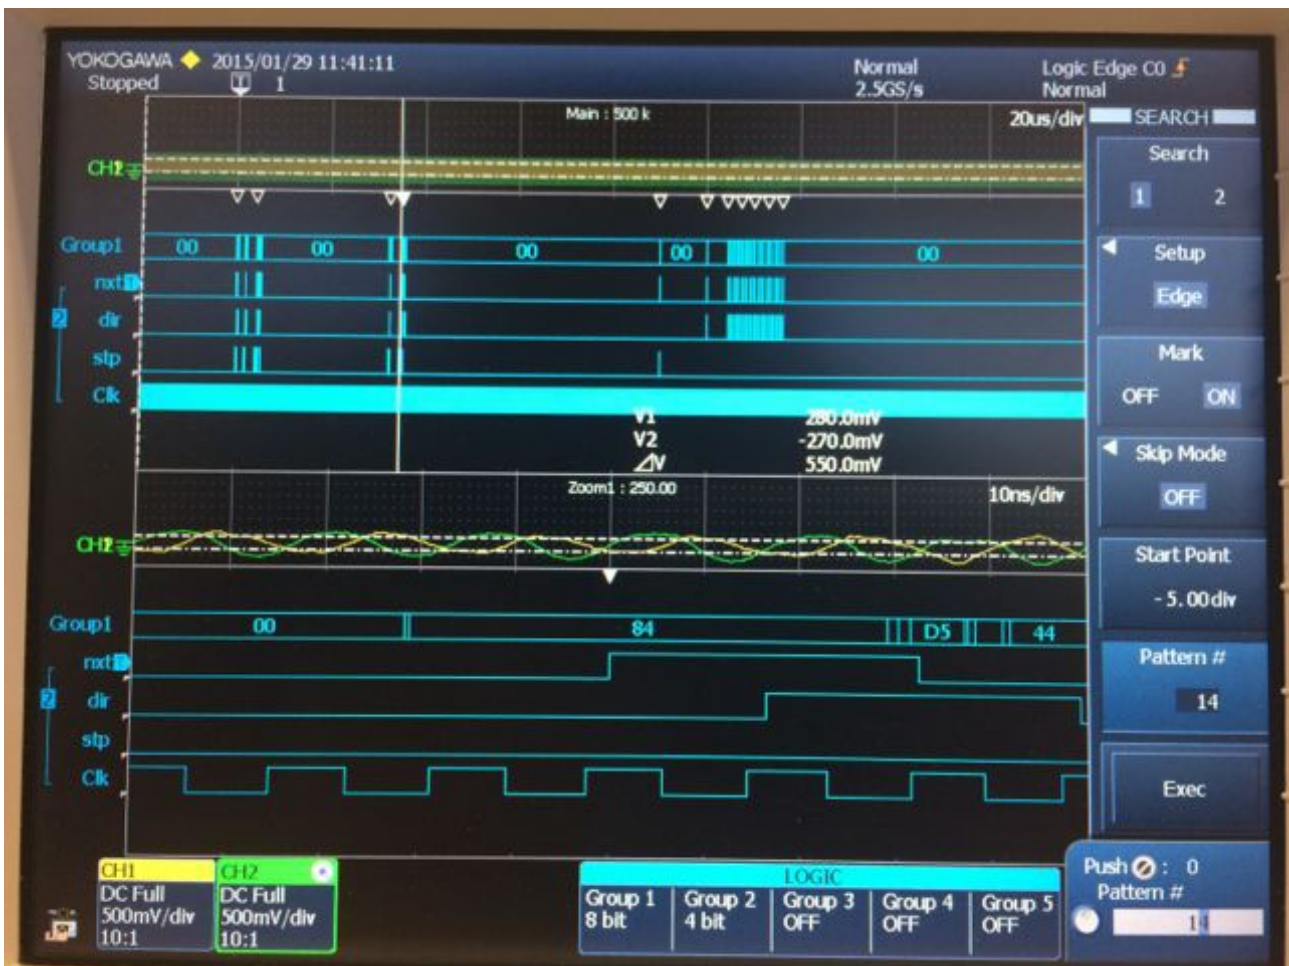

Figure 1: Anomalous 'dir' assertion
As noted adjacent to the '84 D5 (44)' command the waveform(Figure 1) during this Write command shows some anomaly with the 'dir' signal being asserted which would normally indicate a Read from the Phy register. In any case a normal looking write command follows immediately afterwards.